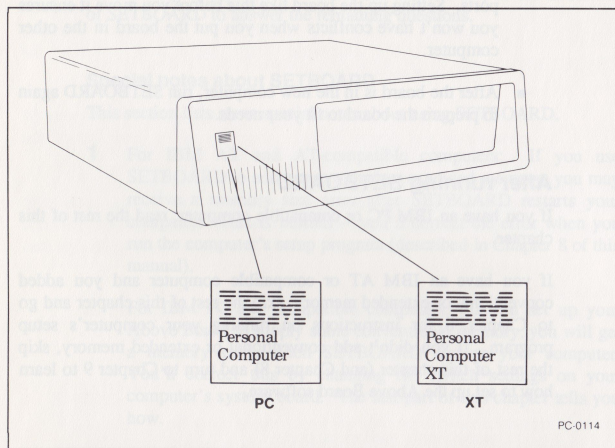

Figure 7-1 Distinguishing between IBM PC and IBM XT computers
- 1 Identify your computer. IBM XT computers have a nameplate that reads "IBM Personal Computer XT" in the upper left corner of the front of the system unit. IBM PC computers have a similar nameplate that reads "IBM Personal Computer." Figure 7-1 shows the difference.